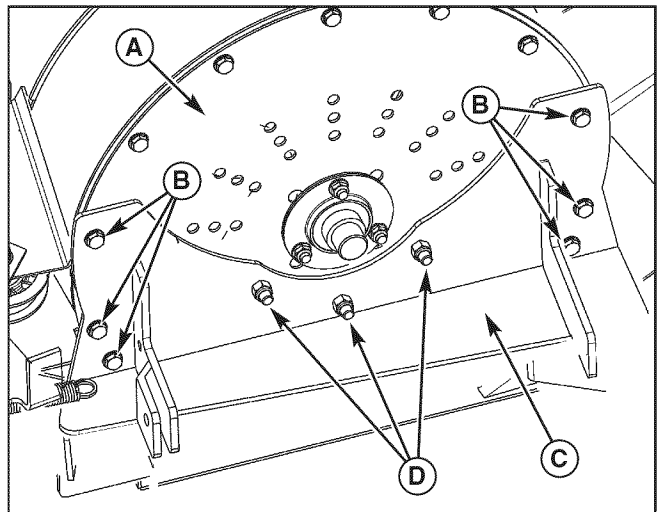

Figure 9. Install Blower Mount Plate
1. Remove the existing 5/16-18 x 5/8" flange head bolts (B, Figure 9) from the blower housing (A).
2. Install the blower mount plate (C) onto the blower housing and reinstall the 5/16-18 x 5/8" flange head bolts. Tighten securely.
3. Install three (3) 3/8-16 x 1" bolts and nylon lock nuts (D) through the blower mount plate and blower. The bolt heads must be installed on the inside of the blower housing.